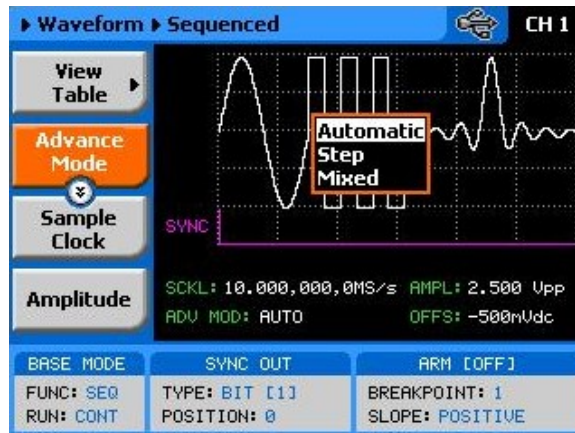

Figure 3-20, Sequence Advance Options
1. Refer to Figure 3-20 and select the Advance Mode with the appropriate soft key. The advance mode options, as shown in Figure 3-20 will display. Use the dial or arrow keys to scroll down to the required mode and press Enter to lock in the selected mode.
The operating mode of the instrument, as selected from the Run Modes menu, affects the way that the 2074 lets you access the sequence advance mode parameter. If you are in continuous mode, as shown in Figure 3-20, you can select one of: AUTO, STEP, or MIXED. If you already selected the triggered run mode, you'll be able to select from AUTO, or SINGLE only as advance modes.